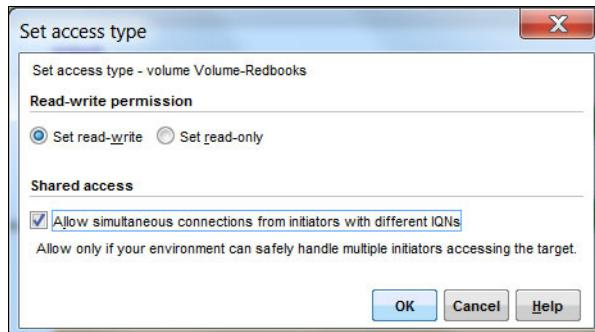

Figure 14-24 Enabling simultaneous access
- Select the **Allow simultaneous connections from initiators with different IQNs** check box and click **OK**, as shown in Figure 14-24.